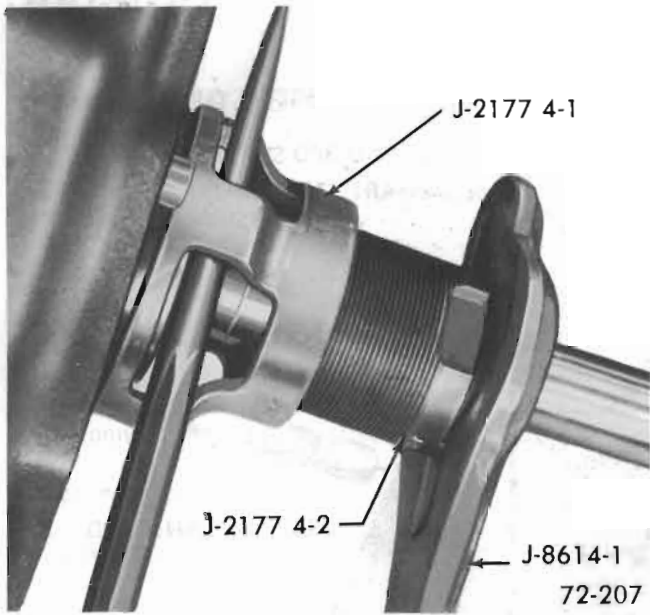

Figure 72-76 - Removing Rear Bearing
15. Remove rear bearing as follows: See Figure 72-76.